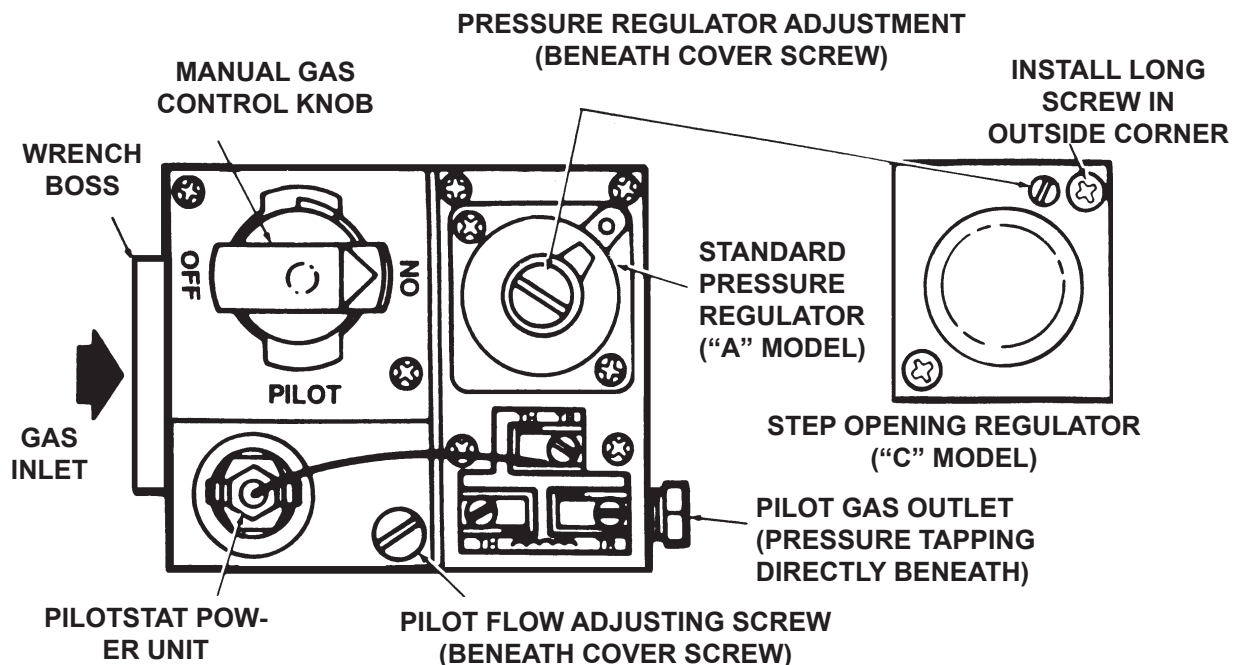

Figure 12. Top View of Standard Capacity Gas Control
- A. Remove pilot adjustment cover screw. Refer to Figure 12.